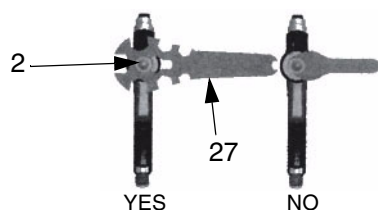

FIG. 5
2. Trigger gun while you remove the nozzle (2) with gun tool (27). See FIG. 5.